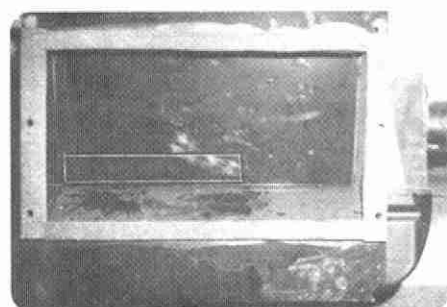

Figure 10
10. Lay the evaporator housing so the inboard portion, the side facing the firewall, is up. Starting at the lower left corner, mark off a 2-1/2" x 11-3/4" slot. You may wish to drill the corners for easier cutting. Cut the slot out (Figure 10).